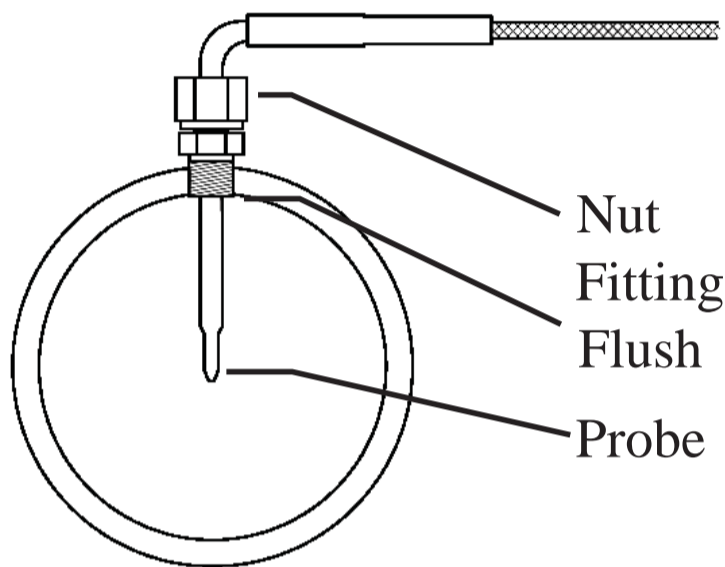

Figure 2 - Probe Insertion
6. Install the probe into the fitting, and tighten the top nut of the fitting just tight enough to keep the probe firmly mounted. (Figure 2)
NOTE: Ideally the tip of the fitting would be less than or flush with the inside of the exhaust flow path. (Figure 2)